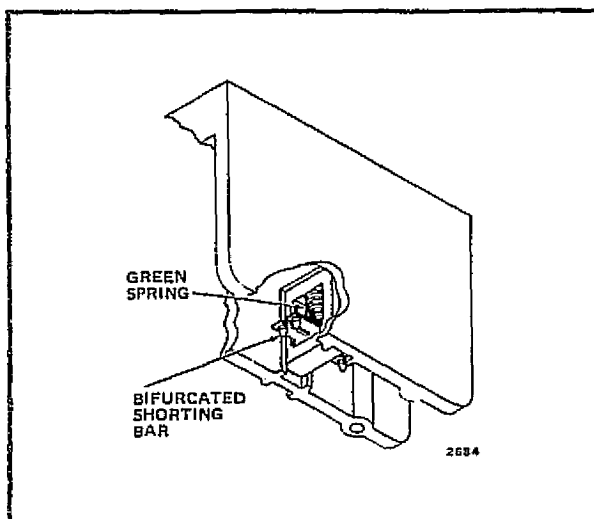

FIG. 11—WITH CONTACTOR HELD UPSIDE DOWN, REPLACE SHORTING BAR AND SPRING.
2. Turn contactor over and place shorting bar in position as shown in Fig. 11.
3. Compress green spring and insert between shorting bar and molded base of the contactor, see Fig. 11. Make certain spring is firmly positioned.